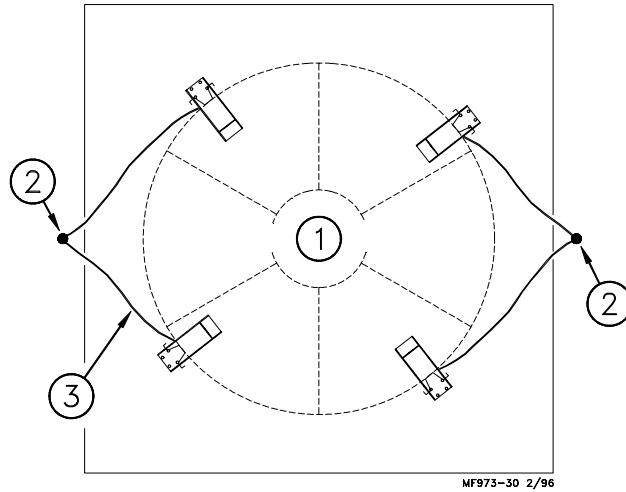

Figure 16. Ground Rod placement for single bin installations (top view).
Chore-Time recommendations for the number and locations of ground rods required are shown in Figure 16 - 18.
- Standard 4-legged bin requires (2) ground rods. Two legs should be grounded to each ground rod. See Figure 16.